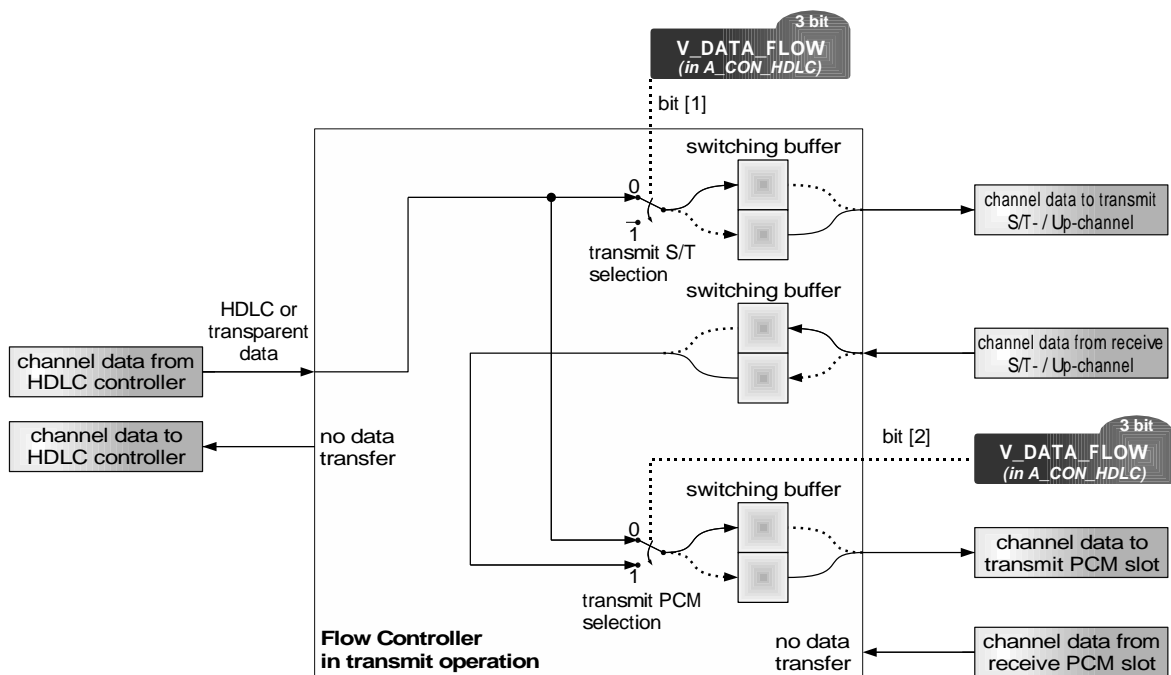

Figure 3.3: The flow controller in transmit operation
In transmit operation one HDLC or transparent byte is read from a FIFO and can be transmitted to the ST/ $U_p$  and the PCM interface as shown in Figure 3.3. Furthermore, data can be transmitted from the ST/ $U_p$  interface to the PCM interface. From the flow controller point of view, the switches select the source for outgoing data. They are controlled by bitmap  $V\_DATA\_FLOW[2..1]$  in register  $A\_CON\_HDLC[n, TX]$  where  $n$  is a FIFO number. Transmit operation is configured with  $V\_FIFO\_DIR = '0'$  in the multi-register  $R\_FIFO$ .
- The PCM interface can transmit a data byte which comes either from the FIFO or from the line interface. Bit  $V\_DATA\_FLOW[2]$  selects the source for the PCM transmit slot (see Figure 3.3). The receiving ST/ $U_p$ -channel has always the same number as the transmitting S/T/ $U_p$ -channel.